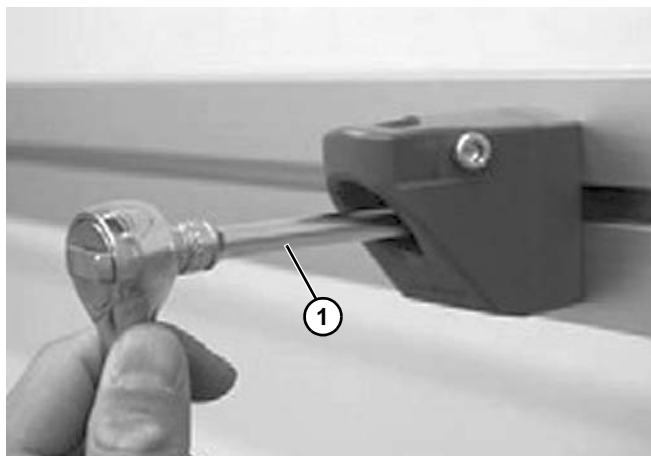

Figure 99
2. Attach the bracket onto conveyor beam and tighten with a socket wrench (**Figure 99, item 1**).